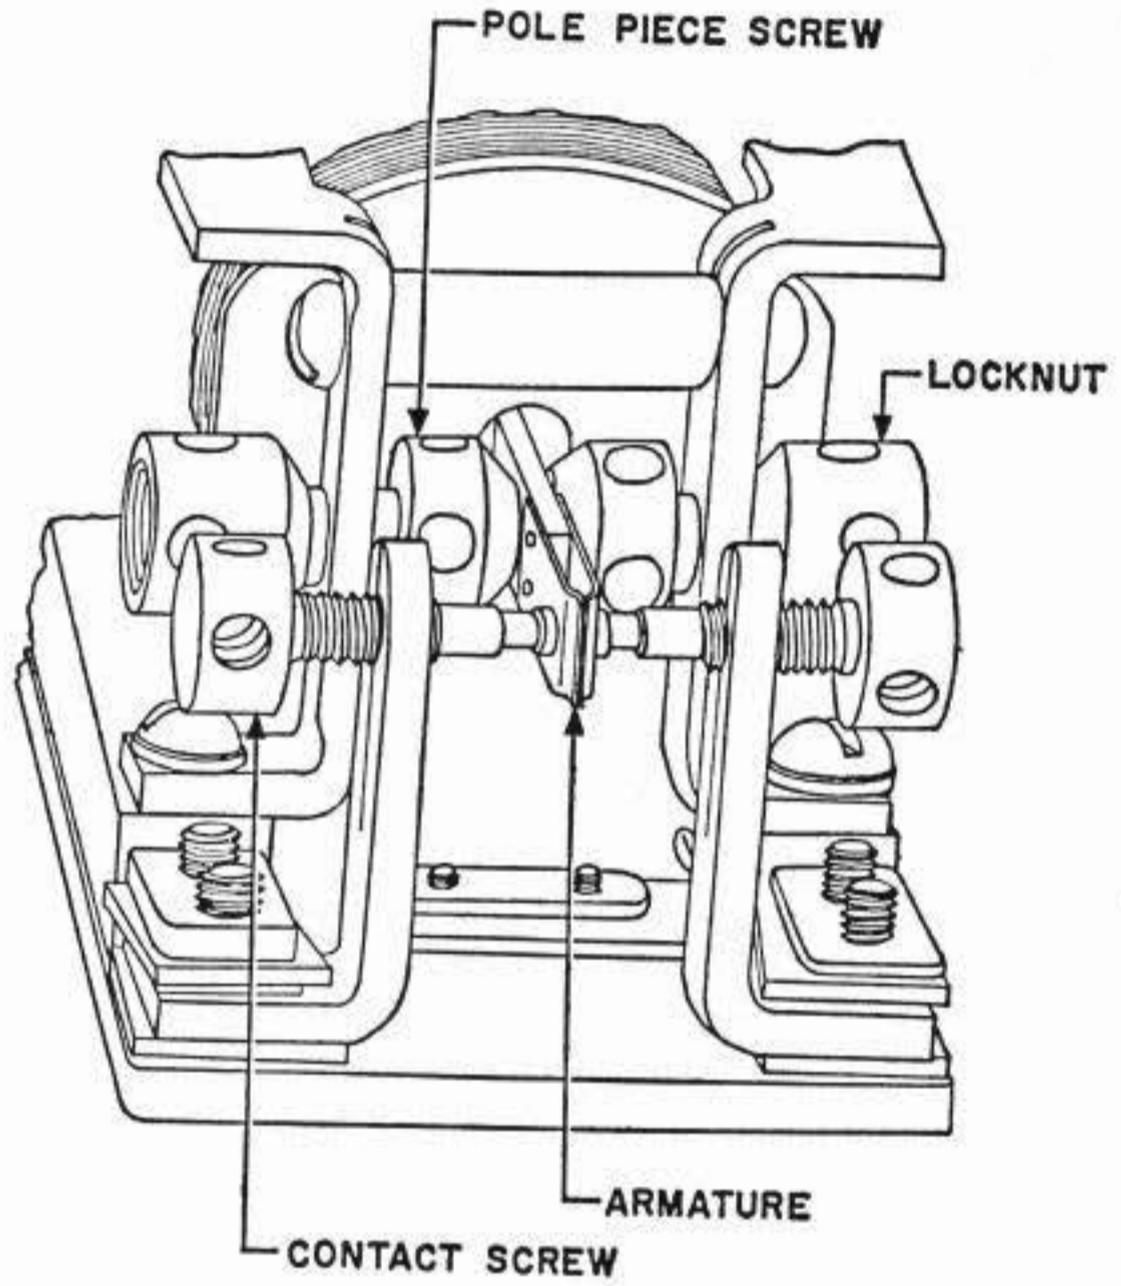

Fig. 2—215-type Relay
1.04 These relays are of the polar type, used with teletypewriters and teletypewriter subscriber sets as well as in certain other applications. When used as line relays they may be operated by either neutral or polar signals. For use in circuits operated by neutral or open-and-close signals, one winding is connected in the line circuit and the other winding has a locally supplied biasing current. For use in circuits operated by polar signals, the two windings are usually connected in series aiding in the line circuit. The arrangements of the relay windings and terminals are shown in Fig. 1A and 1B. Fig. 2, 3, and 4 illustrate the relays as viewed from the front with the covers removed.